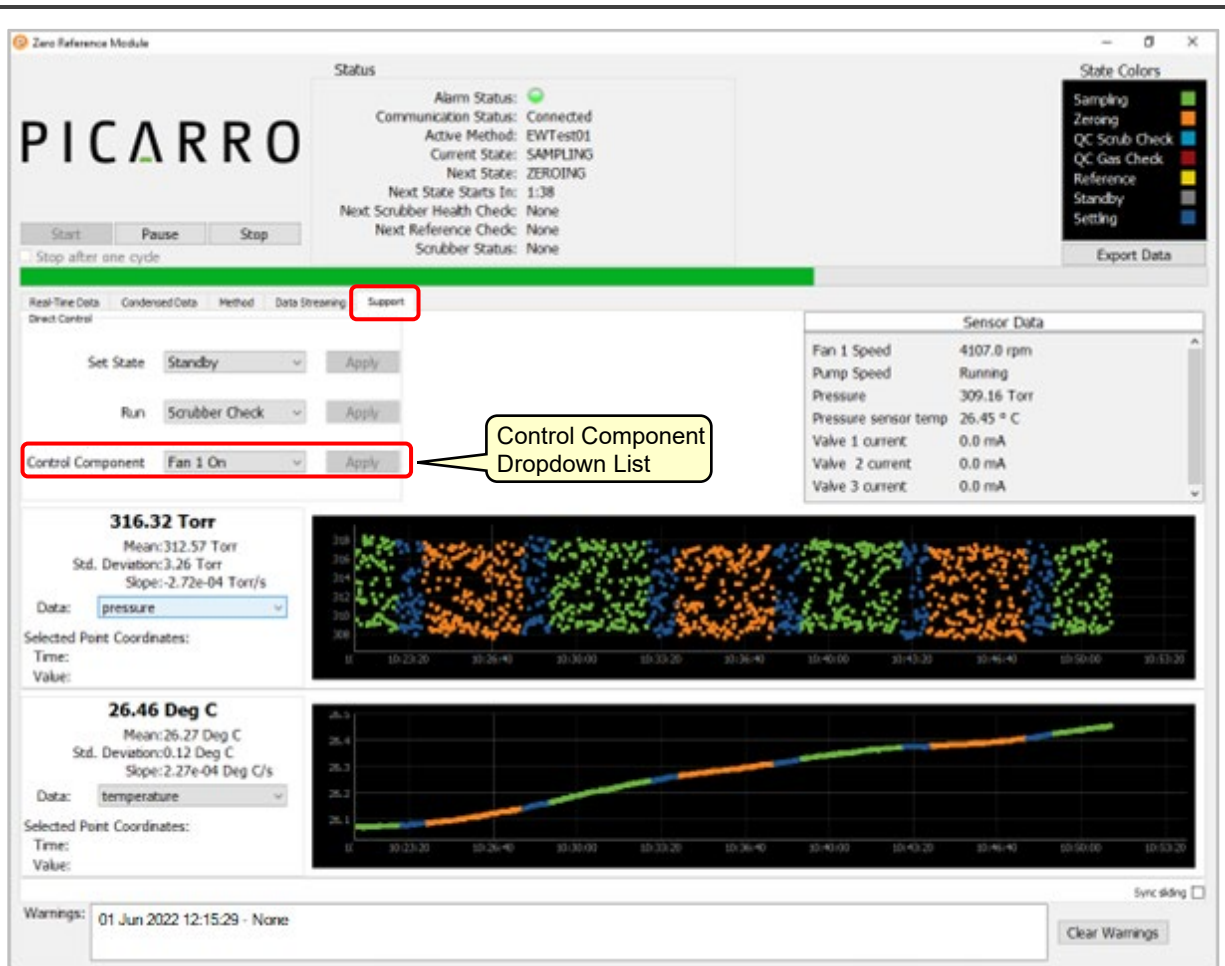

Figure 15: ZRM Software User Interface – Support Tab Selected
4. Click the **Support** tab (Figure 15).